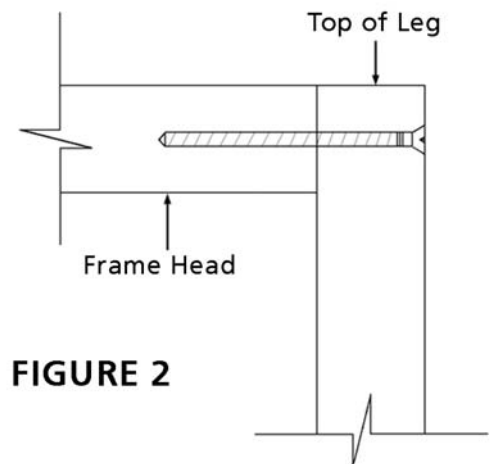

FIGURE 2
3. Attach the hinge & strike legs to the jamb head using (4) #8-3" screws at each joint. See screw pattern below (fig. 2).